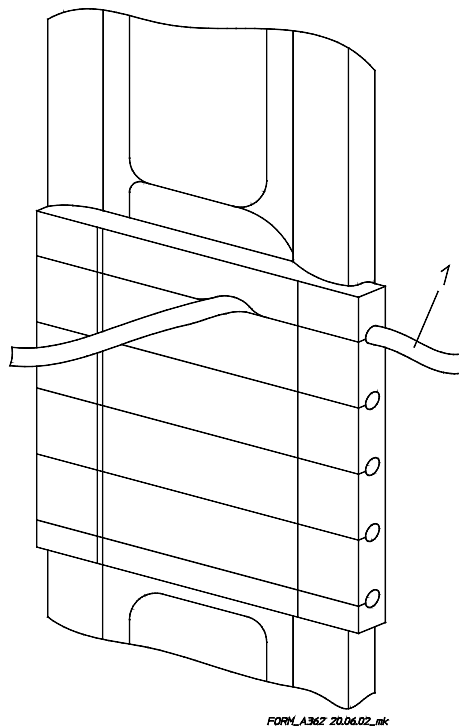

Fig. 1-1
- Squeeze the individual cables (1) into the slots, starting at the edge → Fig. 1-1 .